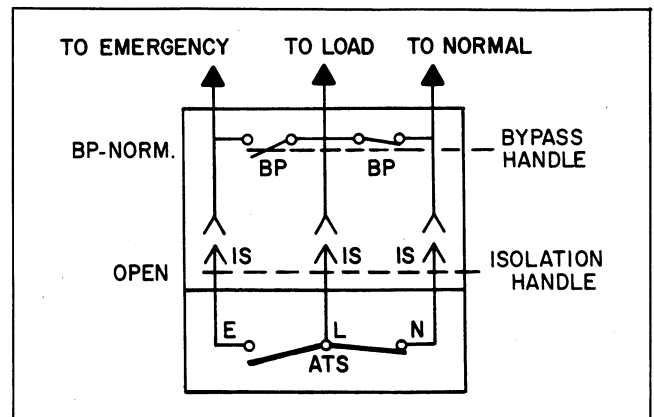

Figure 13. Isolation
2. Isolate Automatic Transfer Switch as follows (Figure 13).